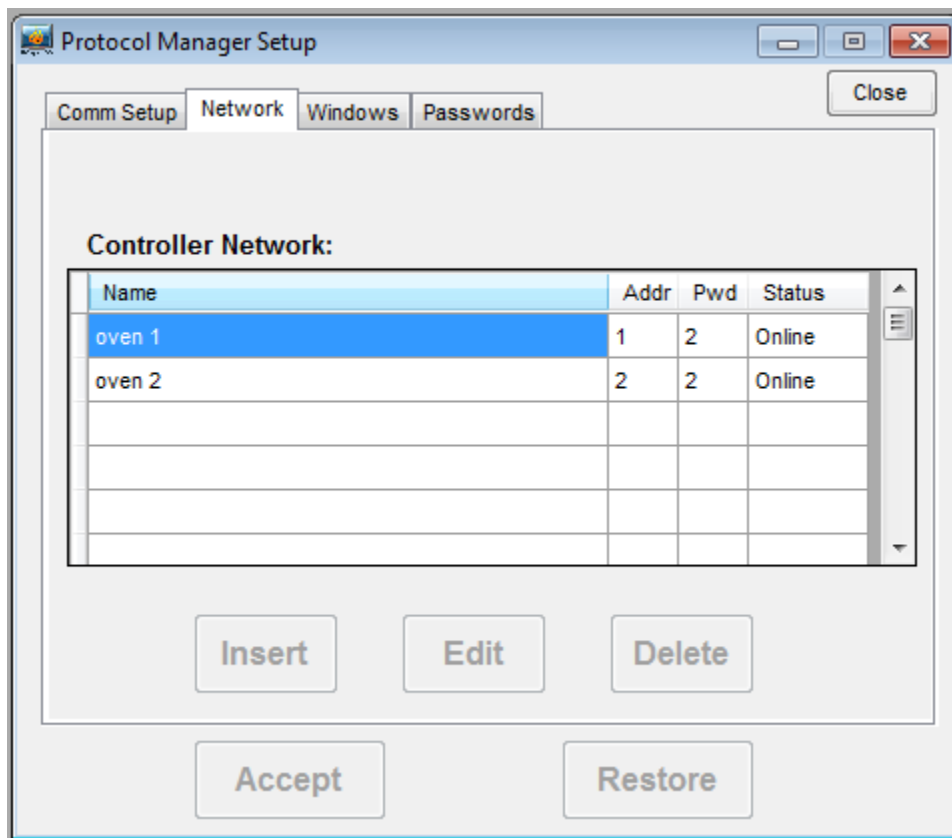

Figure 9: Software Setup Window
2. Click on the **Setup** prompt, and the **Software Setup** window will pop up. See Figure 9.